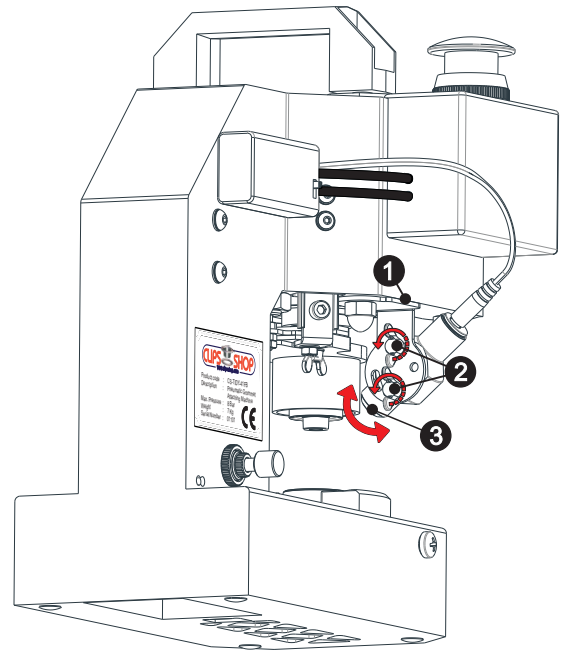

fig. 37
Make sure the bracket's edge① is in parallel to the machine body. (in certain cases you may rotate the position of EyeleD pointer from this bracket as well.) Loosen the wing bolts② by rotating them in the arrow direction. You can adjust the position of the light dot by rotating the EyeleD pointer③ to the right or left in arrow direction as shown in (fig. 37).